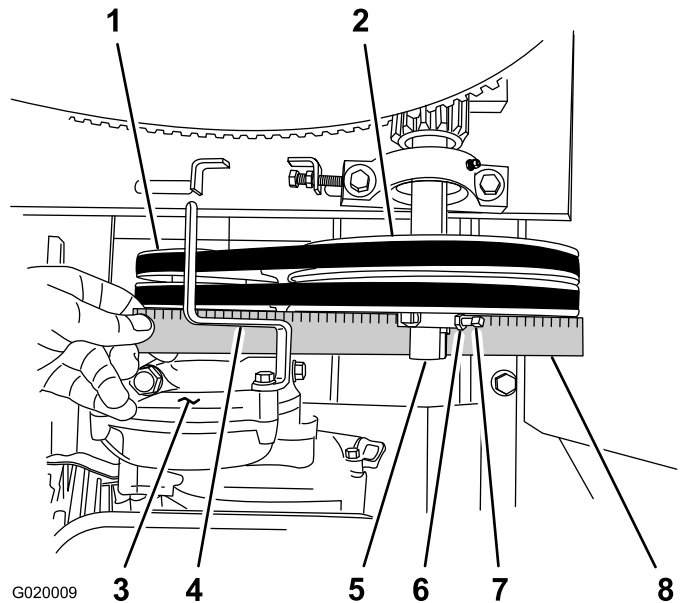

Figure 71
- D. Align a straightedge across the engine pulley and the idler pulley (Figure 71).
- E. If needed, pivot the engine on the engine deck until the engine pulley and the idler pulley are aligned to the straightedge (Figure 71).